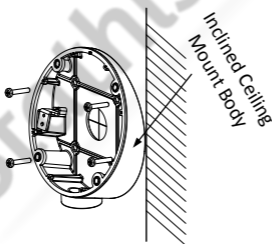

Figure 2-8 Fix the Inclined Base Body
5. Install the inclined ceiling mount's body on the ceiling/wall with four PA4 x 25 screws, as shown in Figure 2-8.